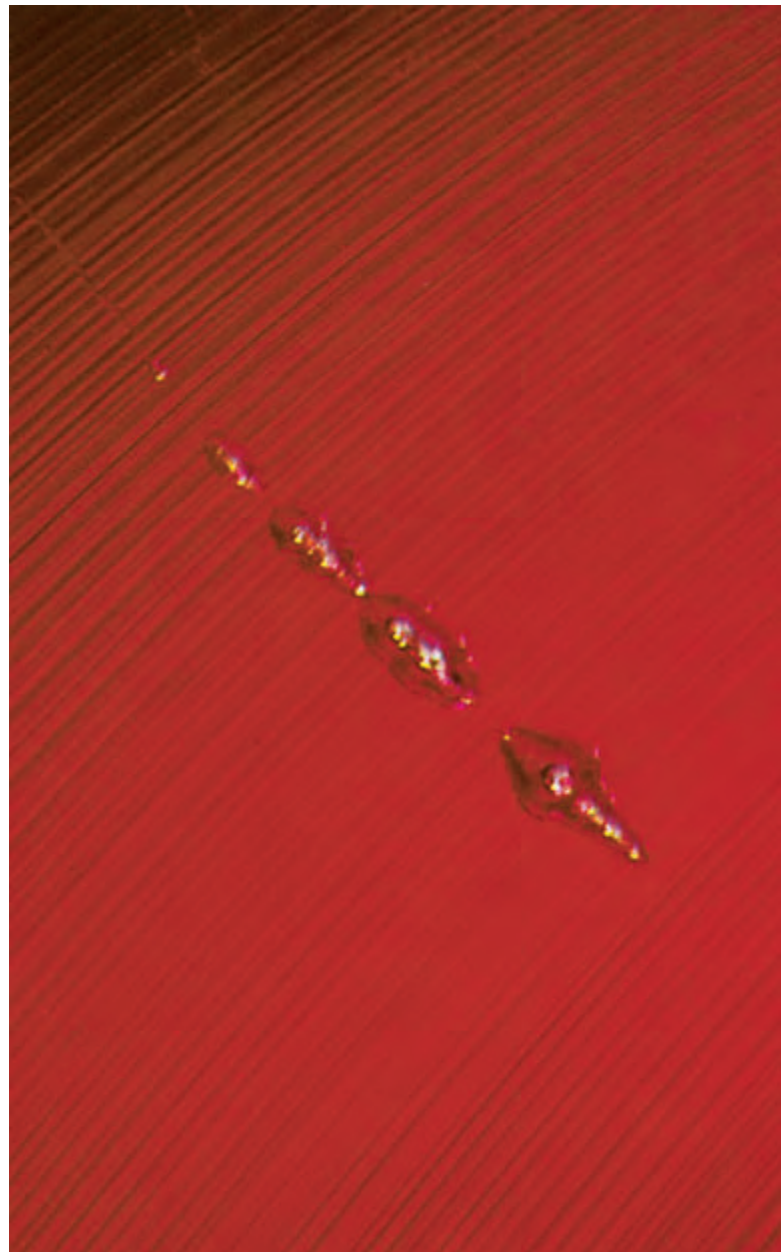

Fig.41: Curved growth lines and gas bubbles in a synthetic ruby characteristic of / typical for a Verneuil synthesis, magnification 50x. Photo source:
**Bright-field microscopy** is the most important method adopted for the investigation of gemstones. In this way most of the inner characteristics of a gemstone can be detected. In bright-field microscopy, the stone is illuminated from below and can thus be studied microscopically by means of the transmitted light. Examples are shown in Figures 41, 42 and 43. With the aid of a stone holder, the stone is held above the light source and rotated into the desired position.
Figure 41 shows a ruby examined under bright-field illumination with side shading.